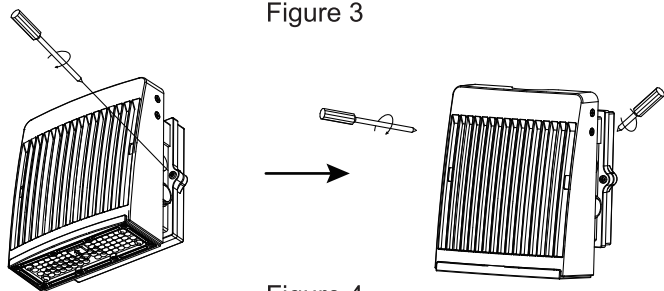

Figure 4
4. Tighten the screws on the back cover with a screwdriver. Well installed when the led fixture can be adjusted to 15°, 30°, or 45° after screws be loosen. (see figure 4)